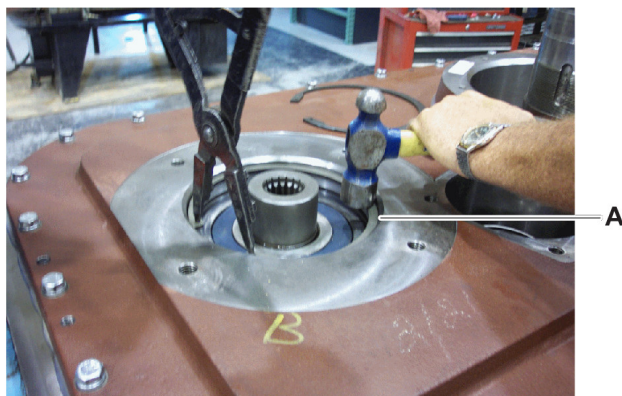

Figure 9
16. Insert snap-rings (Figure 9, item A) inside the housing cover to secure input pinion shaft subassemblies in place.